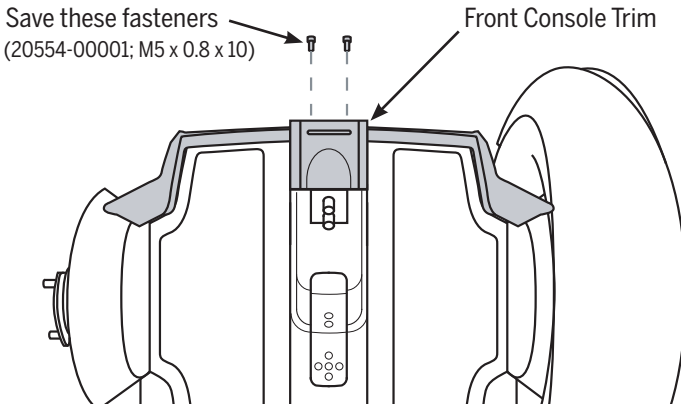

Figure 1. Remove Fasteners
2. Remove the fasteners from the Front Console Trim using a 4 mm hex wrench. See **Figure 1**.